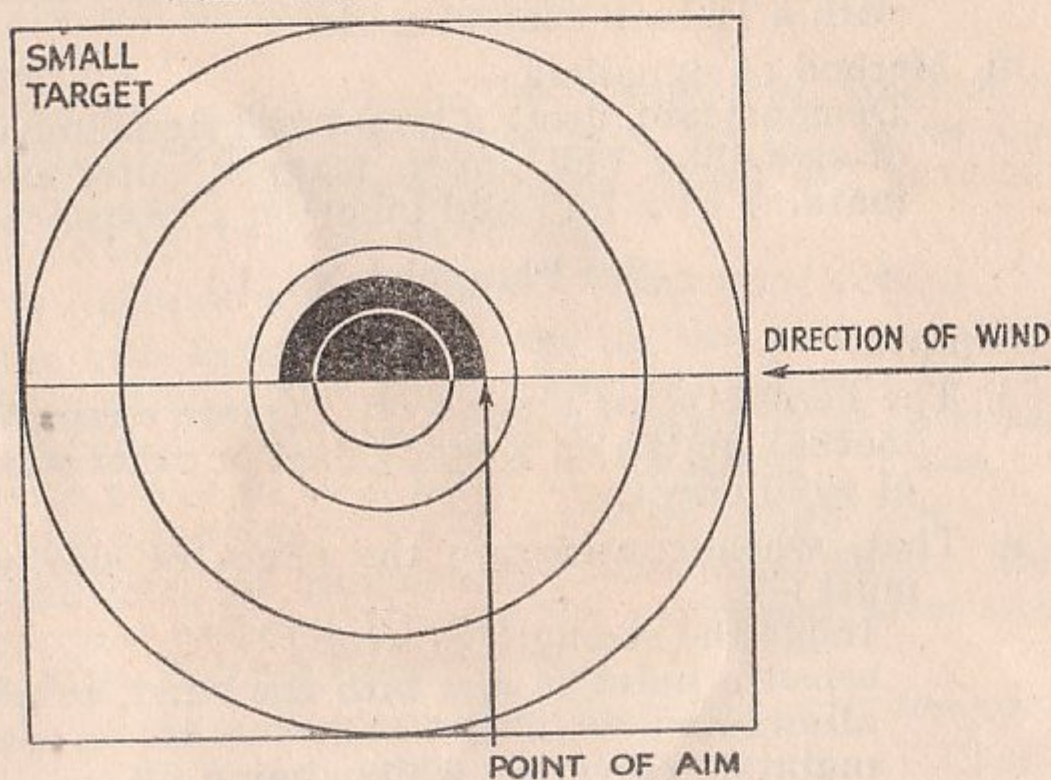

Fig 4
- ii. The above target diagrams (Figs. 4 to 7) illustrate the point of aim required at various ranges, for a *fresh* wind blowing from the right.